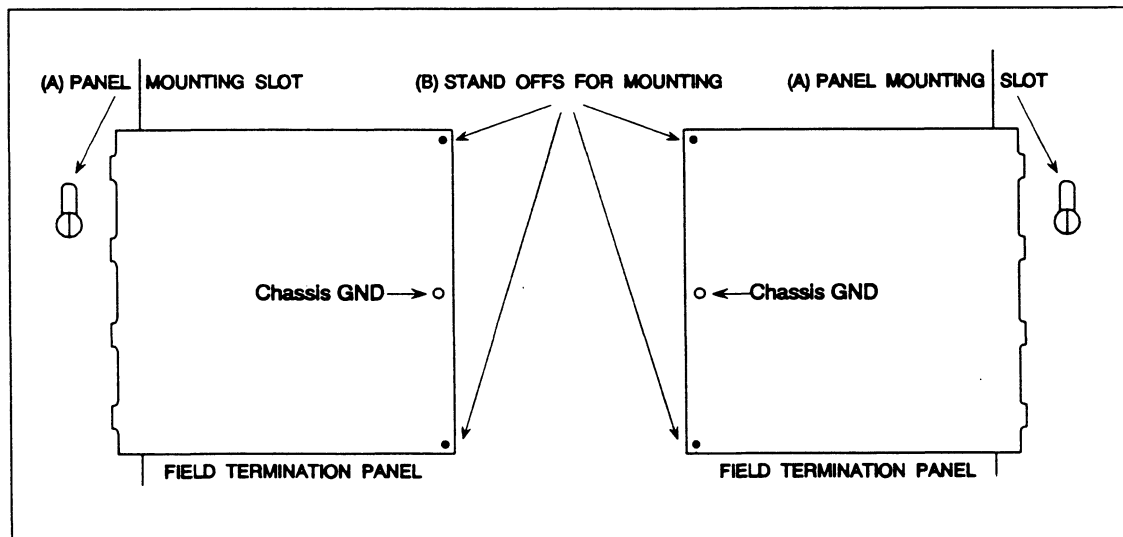

Figure 2-5. Securing the NTCF with two screws.
2. Secure the termination unit circuit board on the field termination panel with two screws as shown in Figure 2-5.
6. Insert the tabs of the replacement T.U. into the same slots of the termination panel standoff as shown in Figure 2-5. and slide the circuit board into position.